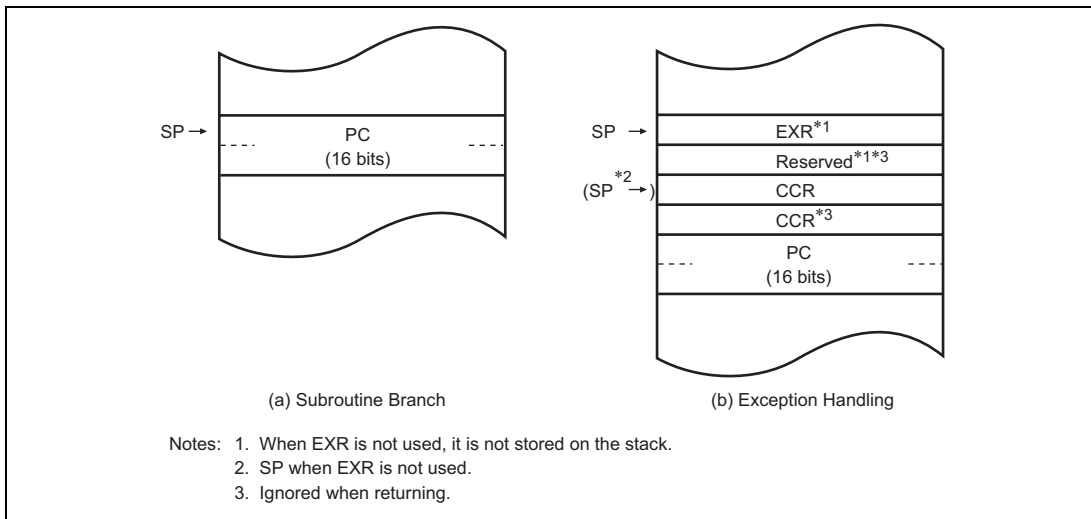

Figure 2.2 Stack Structure in Advanced Mode
In advanced mode, the program counter (PC) is pushed onto the stack in a subroutine call, and the PC and condition-code register (CCR) are pushed onto the stack in exception handling. They are stored as shown in figure 2.2. EXR is not pushed onto the stack in interrupt control mode 0. For details, see section 3, Exception Handling.